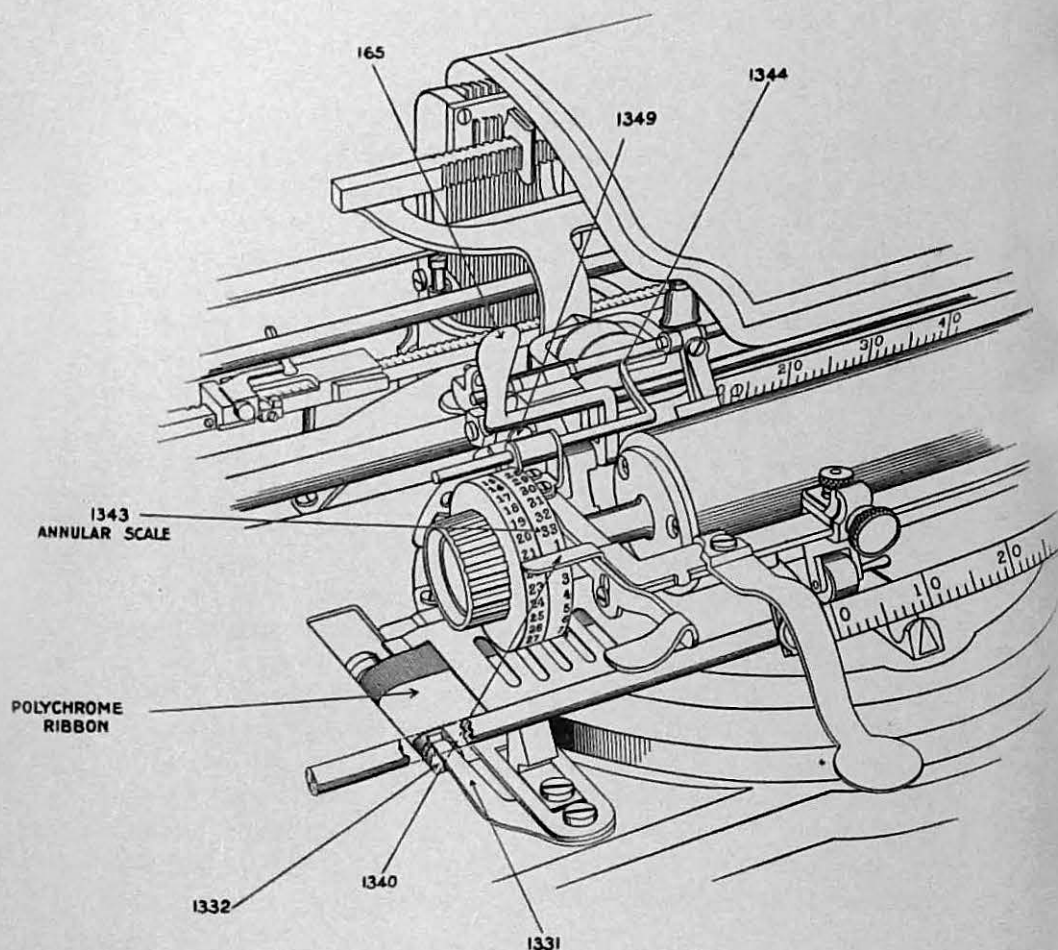
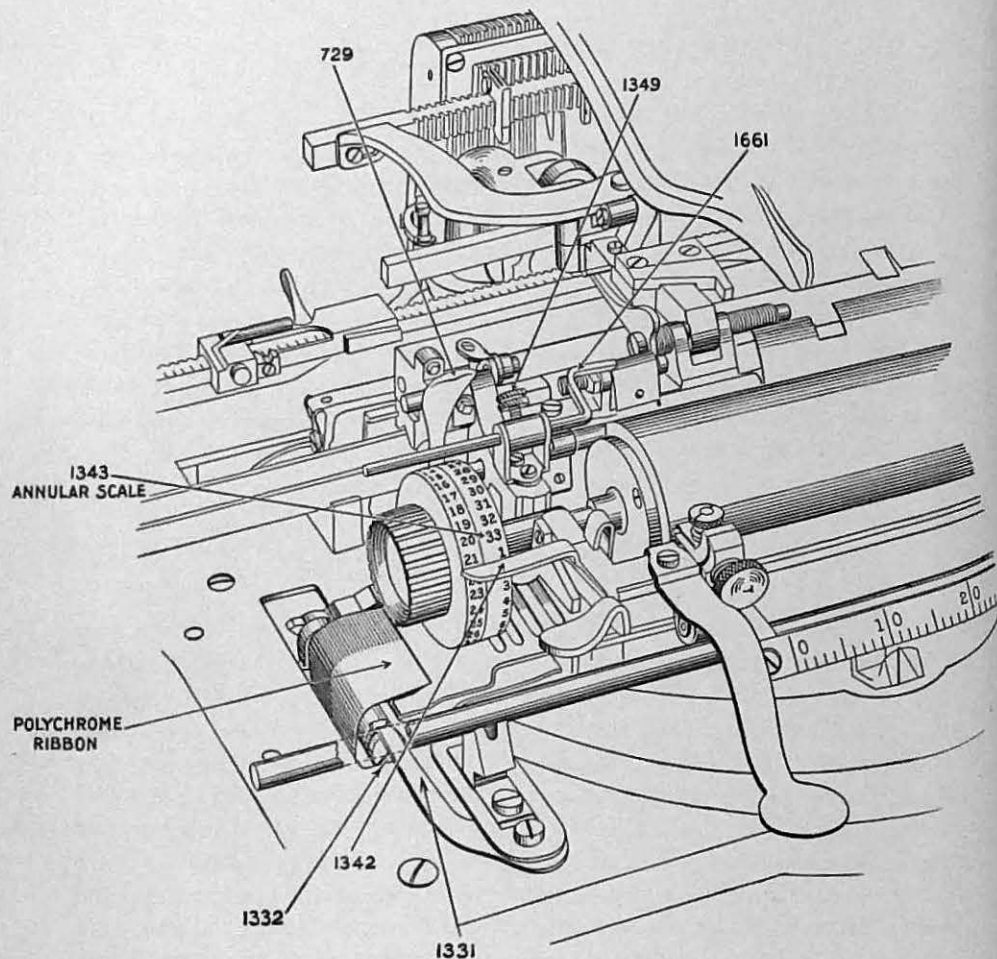
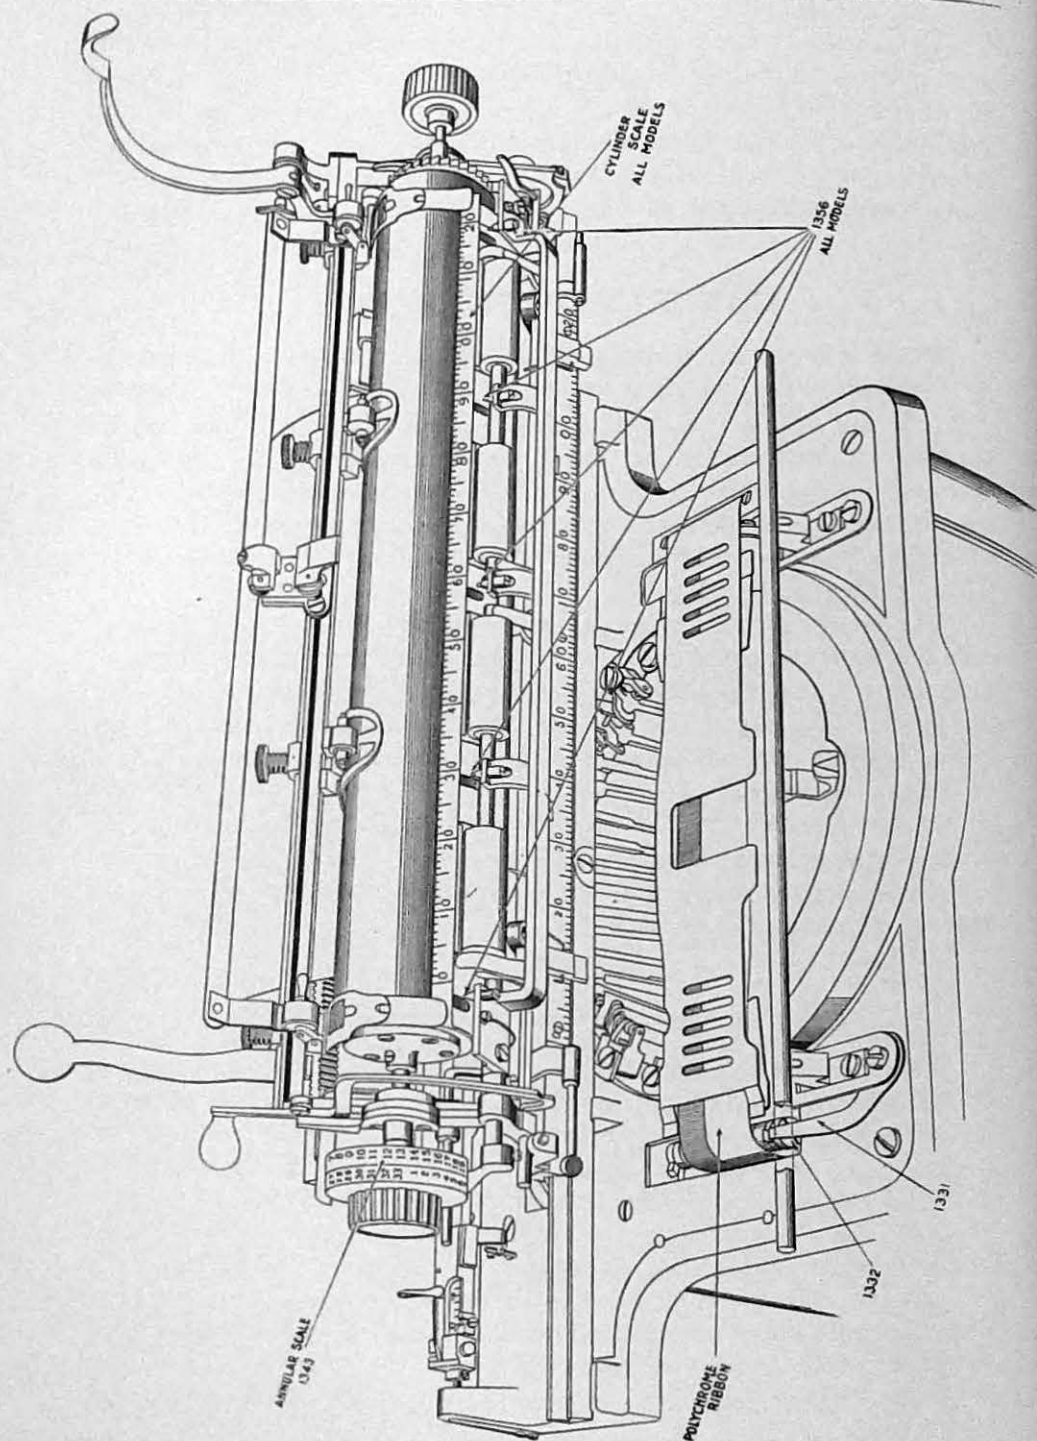

FIG. 1, MODELS NOS. 6 AND 7.
FIG. 2, MODEL NO. 8.
FIG. 3, MODEL No. 8.
Two other special features of the machine, which are of the very first importance, are the adjustable paper side guide, or left hand paper edge stop (1344 on Figure 1, or 1661 on Figure 2), and the horizontal paper guides, or needle bar stops (1356 on Figure 3). The purpose of these features is to secure absolute and automatic control of the paper feed, thus enabling the operator to write almost instantly at the *exact* point desired on any part of the surface of the paper.
The next step is the adjustment of the paper side guide, or left hand paper edge stop (1344 on Figure 1, or 1661 on Figure 2). Insert the bill head or form on which the writing is to be done, and adjust it in
position so that the vertical ruled lines will come exactly opposite the desired notches on the cylinder scale (Figure 3). This adjustment must, of course, be made with reference to the stops at which the tabulator has been set. Then loosen the side guide (left hand paper edge stop) by turning the thumb screw (1349), and move the side guide along until it just touches the edge of the paper. Then tighten the thumb screw.
The paper end guides, or needle bar stops (1356 on Figure 3), require no adjustment.
To insert the paper, press back the feed roll release key (165 on Figure 1, 729 on Figure 2) with the left hand, and, holding paper firmly
in the right hand, drop it down upon the needle bar stops. Then, before releasing the feed roll release key, push the paper over to the left until it just touches the left hand paper edge stop (1344 on Figure 1, 1661 on Figure 2).
Turn the cylinder until number "1" on the red scale appears opposite the indicator (1340 on Figure 1, 1342 on Figure 2), which is attached to the carriage frame. Then push back the feed roll release key (165 on Figure 1, 729 on Figure 2) and insert the bill alone, being careful to follow the instructions contained under *Insertion of Paper*. Next, turn forward to the first writing line (name and address or date). This operation secures the proper setting for the red scale. Then hold the thumb wheel with the right hand to prevent the cylinder from turning, and with the fingers of the left hand turn the white scale until number "1" on the latter scale comes opposite the indicator. Then the bill can be removed. The two scales are now permanently set and will never require readjustment so long as the same style of bill is used.